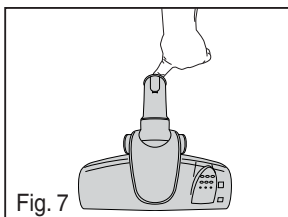

Fig. 7
- Pull floor nozzle off wand and check for blockage (Fig. 7).